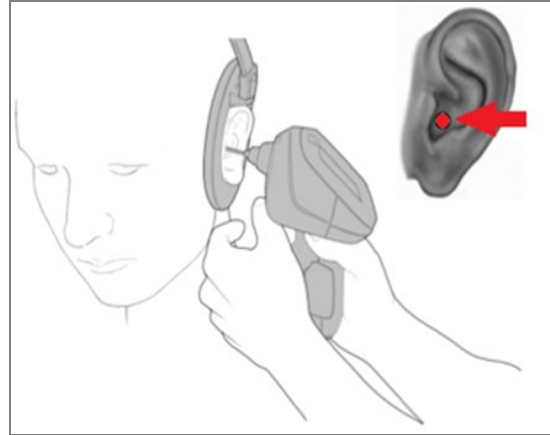
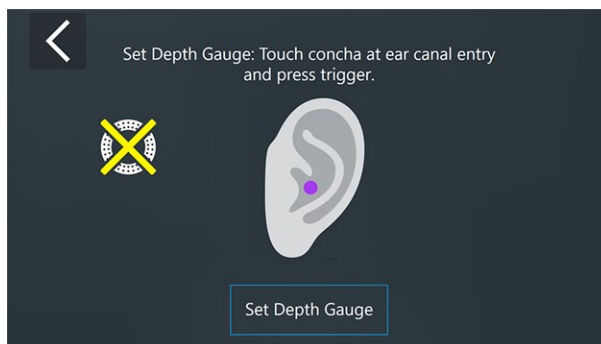

Fig. 20 Where to place the scanner probe when setting the zero point.
Fig. 21 Set the depth gauge.
The screen now displays the **Set Depth Gauge** view. See Fig. 21 ► 26.
- Gently touch the flat part of the concha next to the ear canal opening with the probe tip, as shown in Fig. 20 and Fig. 21 and press the trigger on the hand-held scanner. This action marks a user specified zero reference point.